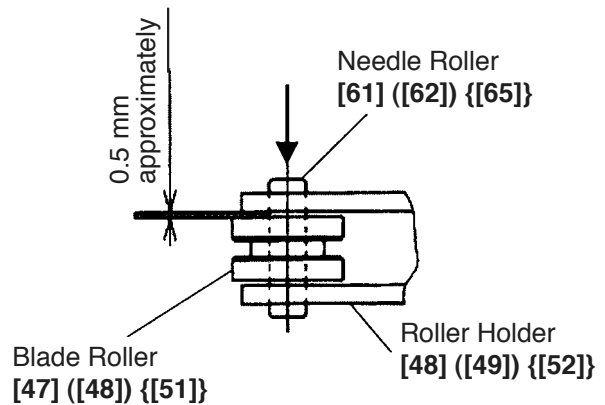

Fig. 16
- (2) When mounting the Blade Roller [47] ([48]) {[51]} into the Roller Holder [48] ([49]) {[52]}, be sure to put a thin plate (thickness: 0.5 mm approximately) between the Blade Roller [47] ([48]) {[51]} and the Roller Holder [48] ([49]) {[52]} and then press-fit the Needle Roller [61] ([62]) {[65]} (Fig. 16). After press-fitting, check that the roller holder rotates smoothly.